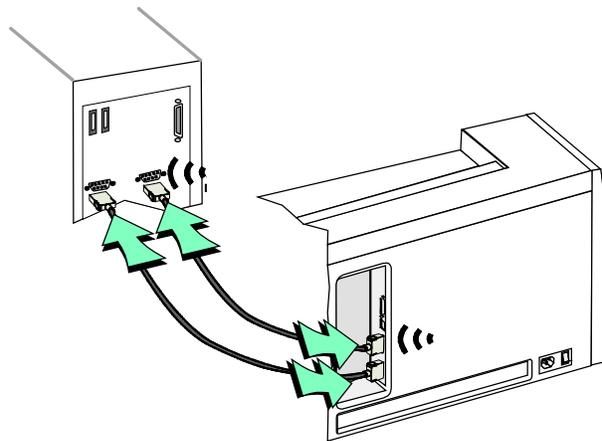

Figure 7-8: Connect the smart card serial cable
- 1 Connect the serial cable to the lower printer port (Figure 7-8) if a contact smart card module or a contact station is installed in the printer.
- 2 Connect the serial cable to the upper printer port (Figure 7-8) if a contactless module is installed in the printer.